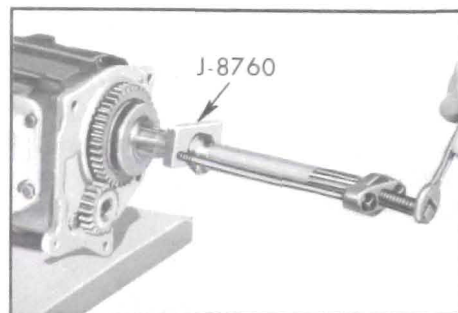

Figure 4-56—Removing Speedometer Gear
8. Remove the speedometer gear with J-8760 as shown in Figure 4-56.